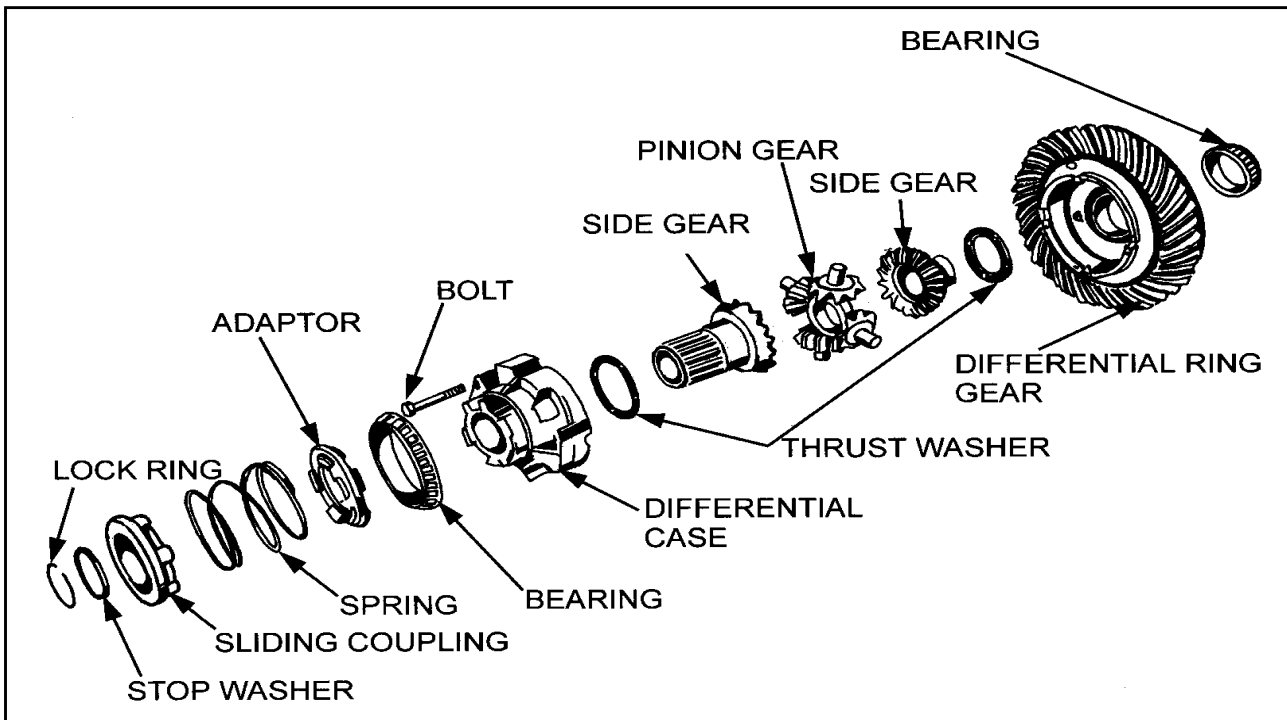

Figure 11
- Remove the differential lock ring retaining the differential lock coupling to the right-hand side gear. Remove the stop washer, coupling, coupling spring and gear case adaptor, Figure 11.